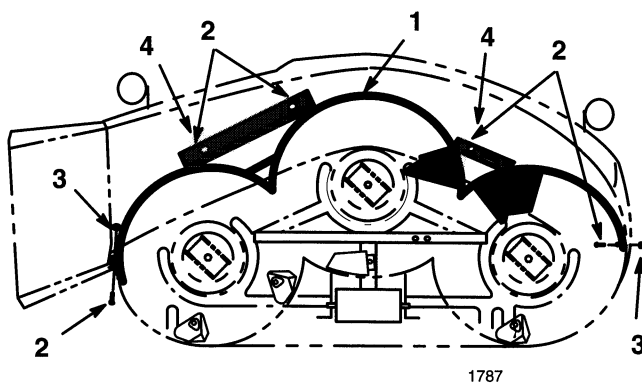

Figure 20
5. Secure the baffle to mower with 3/4" bolts from outside of deck through front brackets (Fig. 20). Secure with lock nuts.
6. Secure baffle to mower with 3/4" bolt from outside of deck through bracket at discharge chute (Fig. 20). Secure with lock nut.
7. Secure baffle to left side of mower with 3/4" bolt through from outside of deck (Fig. 20). Secure with lock nut.
4. Remove 3/4" bolts through front brackets (Fig. 20).
5. Remove 3/4" bolt through bracket at discharge chute (Fig. 20).
6. Remove 3/4" bolt through baffle at left side of mower (Fig. 20).
8. Install (2) 3/8-16 x 1/2" carriage bolts, from inside out, to fill open holes of mower for safety. Secure with washers and 3/8 lock nuts (Fig. 20).